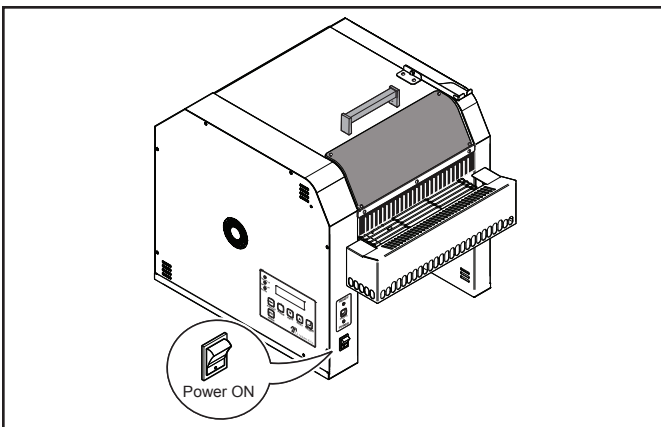

Figure 2. Power Switch Location
2. Use the **PREV** and **NEXT** buttons to adjust the toasting quality to lighter or darker respectively (Figure 2).
1. Turn the Power Switch off (Figure 2). The LED on the switch turns off.